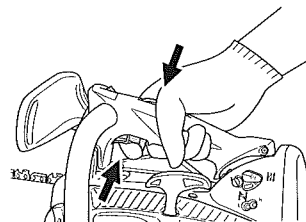

Fig. 16
8. As soon as engine start, pull throttle trigger full once and release immediately. (Fig. 16) Then half-throttle is disengaged.